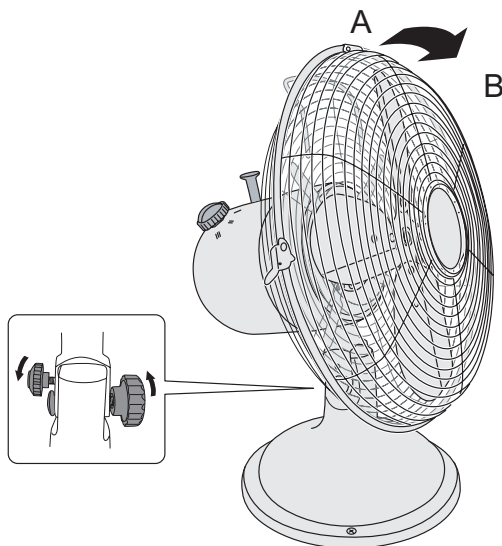

Figure 2
2. Tilt the fan to the required angle (see Figure 2). You can set the fan:
- a. to blow horizontally (position A) or angled slightly downwards (position B). Turn the locking screws a little bit loose first (see figure 2). Tilt the ventilator housing and motor housing to the required angle. (with a sweep of 10°). Tighten the locking screws again.